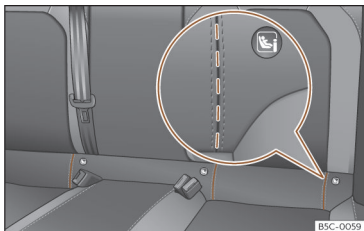

Fig. 27 Rear seat: die cut slots to access the ISOFIX / iSize securing rings.
rings are secured to the seat frame and, in others, they are secured to the rear floor. The “ISOFIX” rings are located between the rear seat backrest and the seat cushioning >>> **Fig. 27**. The Top Tether rings are located on the rear part of the rear seat backrests
- Open the cut-out section behind the marked grooves to access the retaining rings >>> **Fig. 27**.